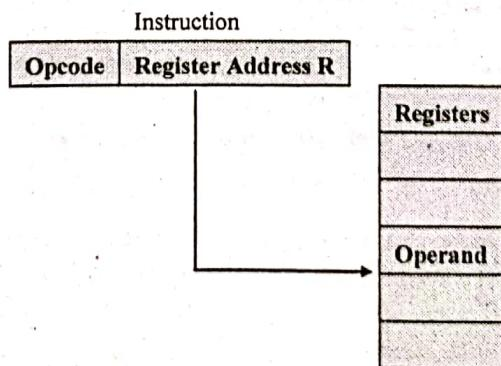

Fig. 2- Q. 6(b) : Register addressing mode
- In this mode of addressing, operand is in the register, and instruction specifies the particular register as shown in Fig. 2- Q. 6. (b).